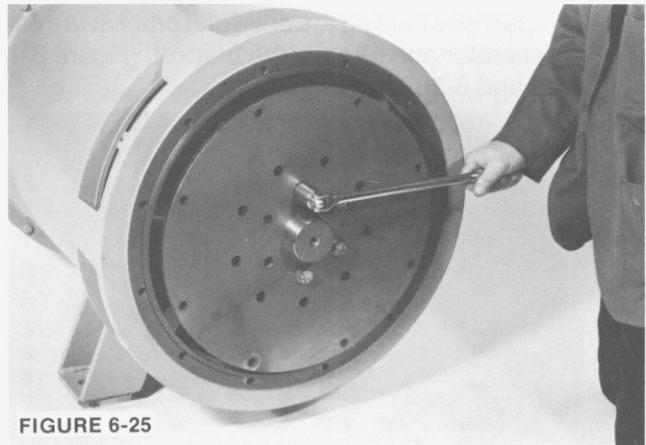

FIGURE 6-25
4. For single bearing generators, remove the capscrews and hardened washers holding the drive discs to the drive hub. (Figure 6-25.) Remove all drive discs (and spacers if any).